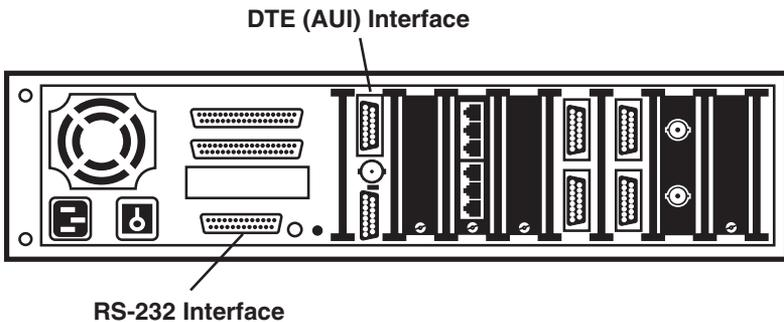

Figure 3-7. RS-232 Connection.
1. Locate the RS-232 interface on the lower-left-hand corner of the RISC Router Expandable. The connector is a 25-pin male connector (Figure 3-7).
The DTE (AUI) interface is the top connector of a the RISC Bridge/E Expansion Card (see Figure 3-7). This interface is a 10BASE5 Thick Ethernet Attachment Unit Interface (AUI).